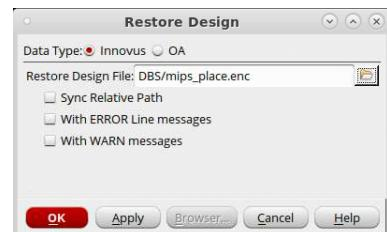

Figure 6: Restoring a previous design.
2. Select the *DB/Processor_nameofstep.enc* file to restore as depicted in Fig. 6.